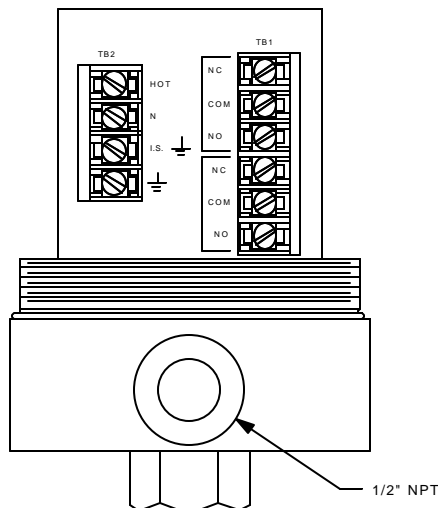

FIGURE 2-4 Hook-up Details For Relay Outputs And AC Line Power
- Figure 2-4** Hook-up Details For Relay Outputs and AC Power
Two sets of relay outputs are provided (Figure 2-4). **They are not powered.**
AC Powered Series 200's Connect AC line power to N(neutral), HOT and ground symbol terminals (Figure 2-4) which are fuse protected. Wire size of #12 AWG is recommended for primary power and control circuit wiring.